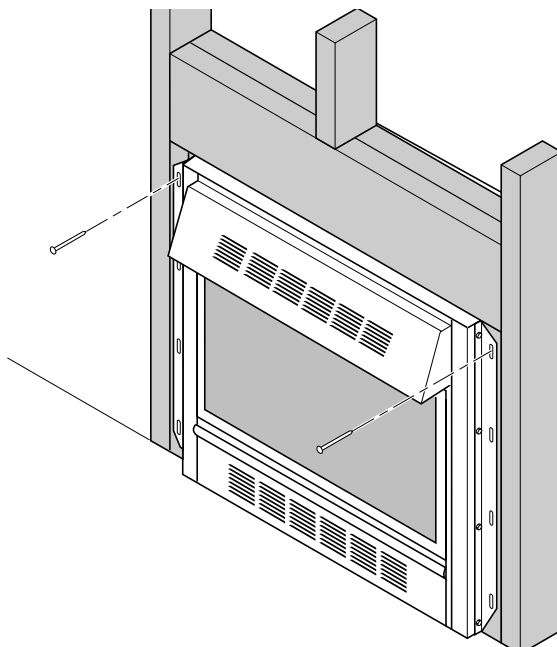

Figure 14 - Attaching Nailing Flange Accessory
- Attach fireplace to wall studs using nails or wood screws through holes in nailing flange (see Figure 14).